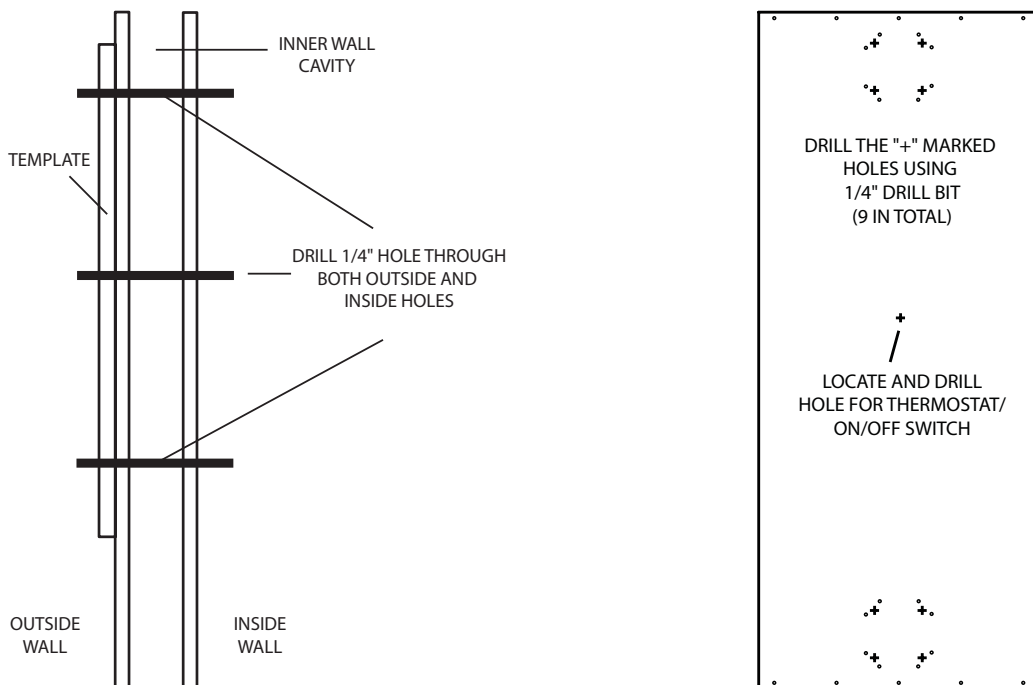

Figure 9. Drill holes through both outside and inside walls.
- b. Using a 1/4" drill bit, drill the corners of the inlet and outlet openings as well as a hole for a ON/OFF switch/thermostat wire as shown in Figure 9. Make sure you drill all the way through both the exterior and interior walls.